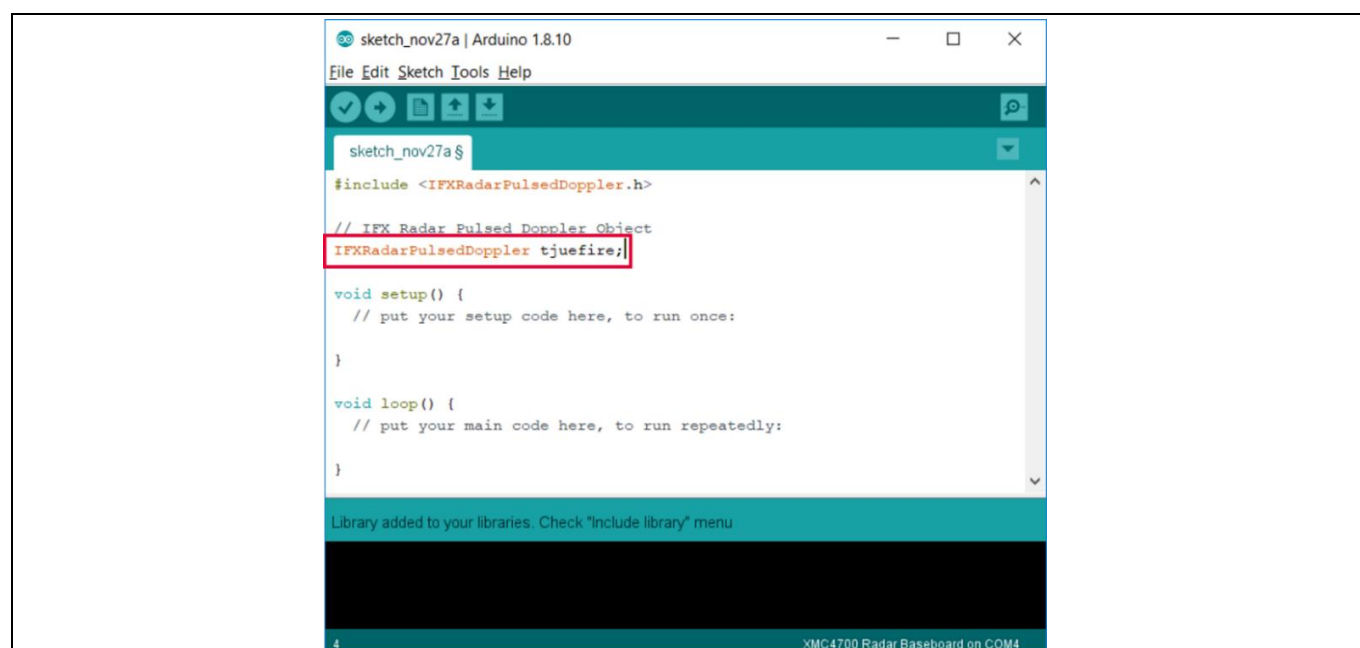

Figure 12 Declaring Pulsed Doppler Radar object
2. Next, declare a Radar Pulsed Doppler object, such as shown in Figure 12.